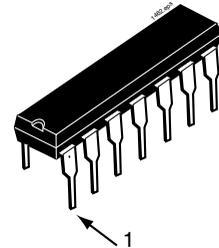

Figure 1.3 A 14-pin integrated circuit (IC) in a dual-in-line-package (DIP).
10. The three integrated circuits (ICs) contained in this kit are shipped in a plastic tube for protection. A 14-pin DIP IC is shown in **Figure 1.3**. Part numbers are found on the topside of the ICs. Identify each of the generic parts numbers LM741, 4069, and 74LS05. Return the ICs to their protective tube and set them to the right.